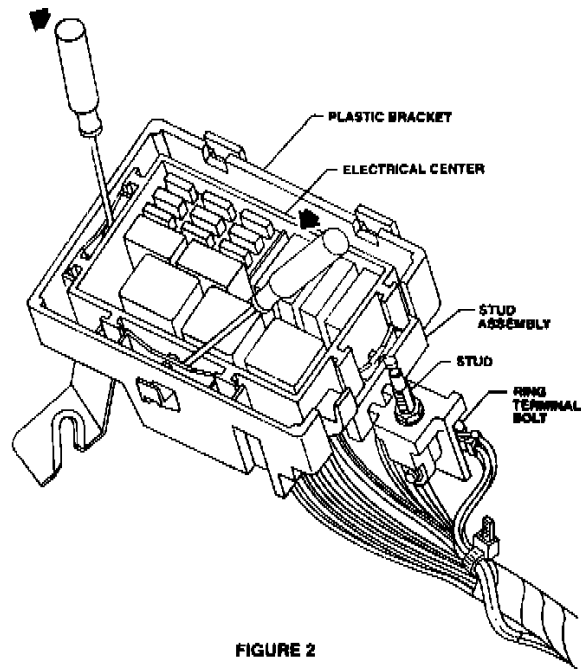

FIGURE 2
6. Remove electrical center from plastic bracket. Use a small screwdriver to release retaining tabs (Figure 2).
8. Remove bolt securing ring terminals to bottom portion of stud assembly (Figure 2).